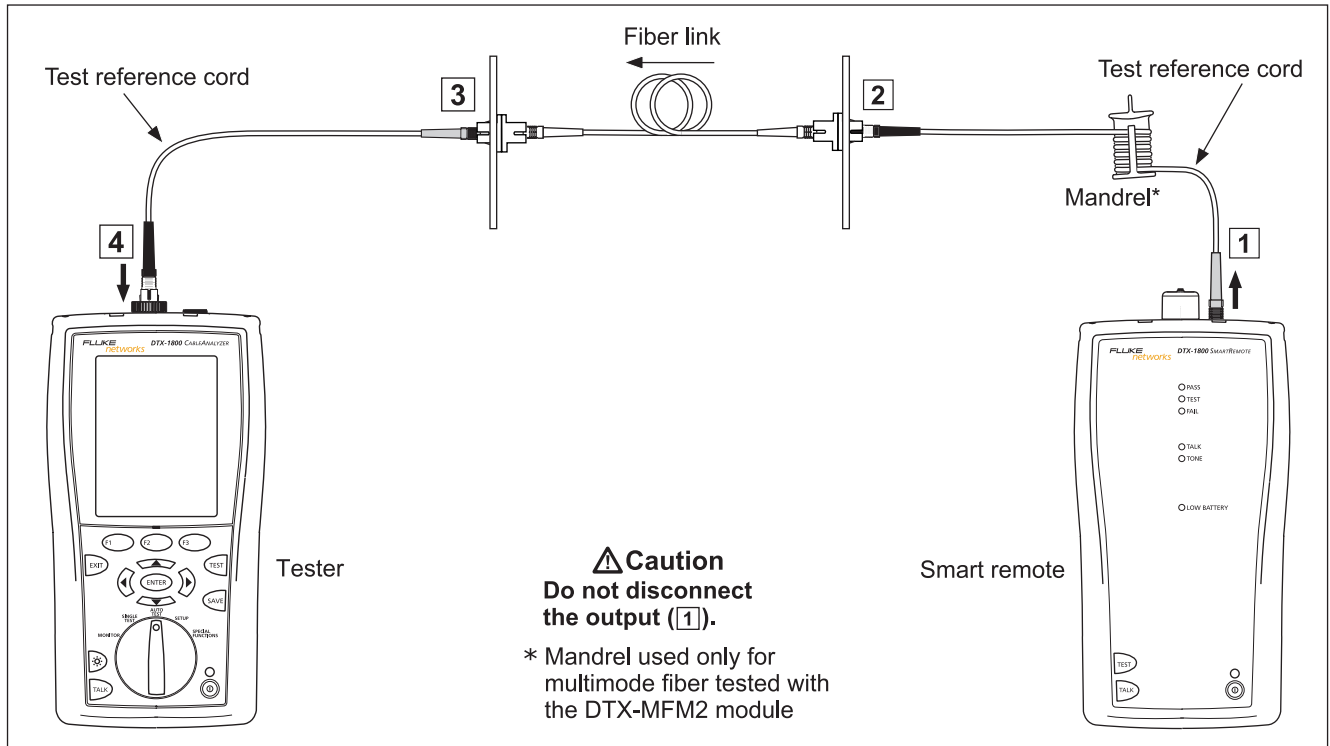

Figure 8-21. Testing a Fiber in Far End Source Mode (1 Jumper Method)
- 19 Connect the tester to the cabling as shown in Figure 8-21.